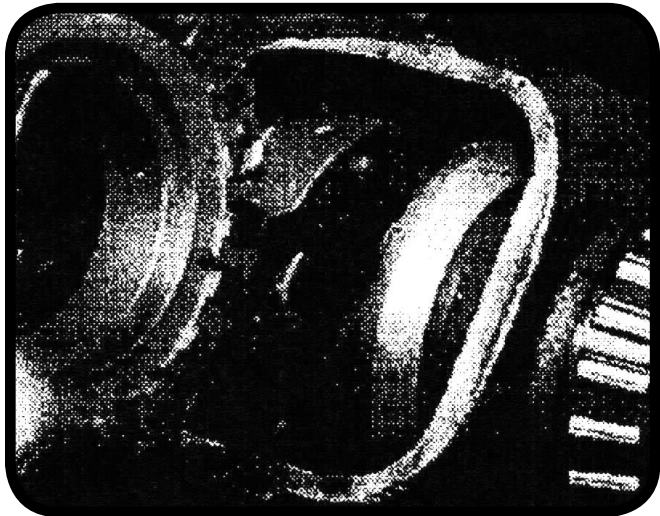

Figure 8
5. Repeat this step for the other driver-and spacer assembly (Figure 8).